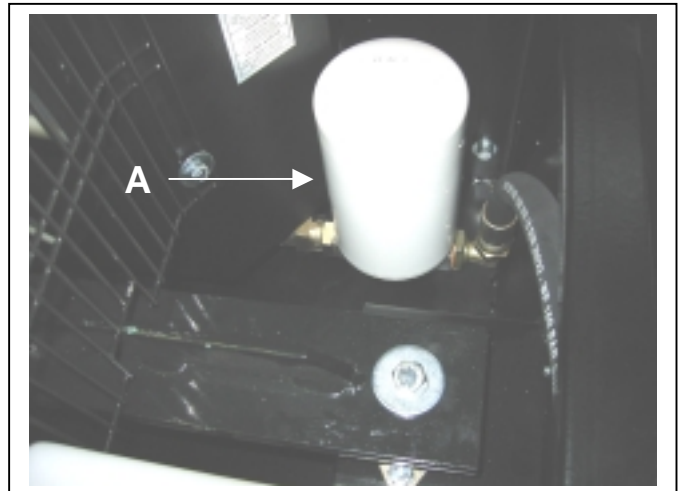

FIG. 19
-- 10.9) COMPRESSOR OIL FILTER REPLACEMENT (Fig. 19 --
(fig. 19 part A);